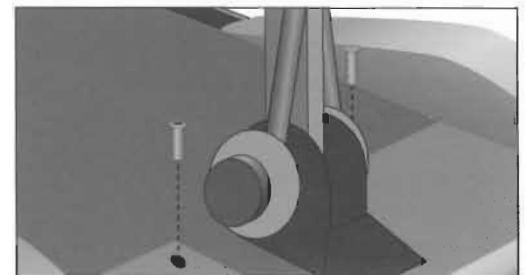

Figure 16 Insert the 1/4-inch bolts through the shroud and into the treadmill base.
6. Insert a 1/4-inch bolt into each of the two holes on the top of the treadmill base (Figure 16).